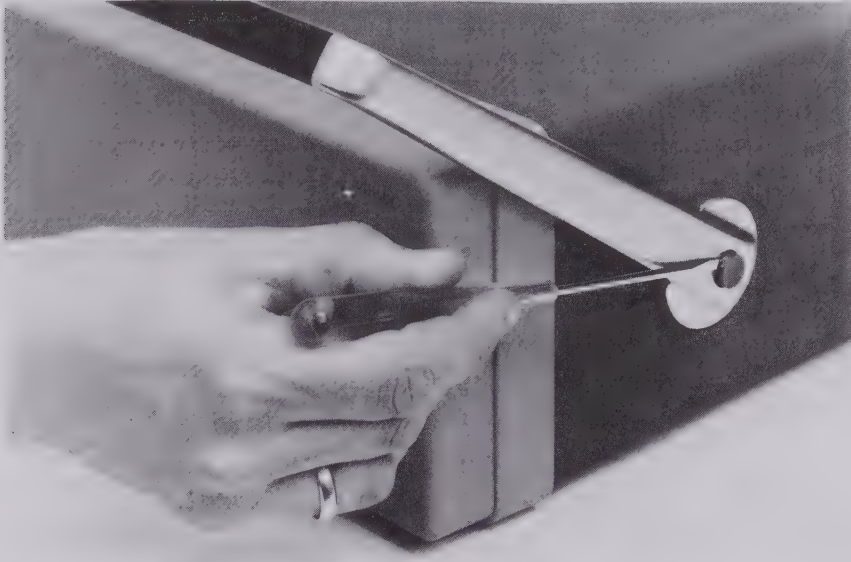

Fig. 3.19. Removing the carrying handle
- Prise off the centre knobs from each pivot, using a screwdriver (Fig. 3.19) in one of the small slots at the sides of the knobs.